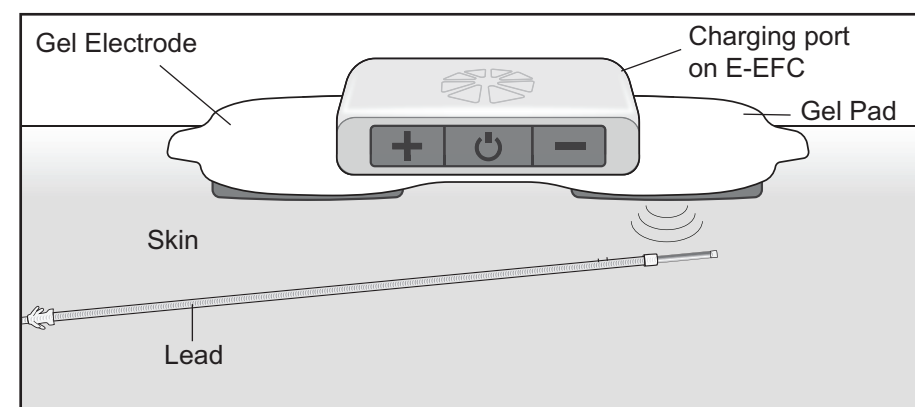

Figure 9-4: Optimal stimulation, position (Illustration not to scale)
4. Align the Gel Electrode directly over the end of the lead. The center of the gel pad should be above the StimRouter lead. See Figure 9-4.